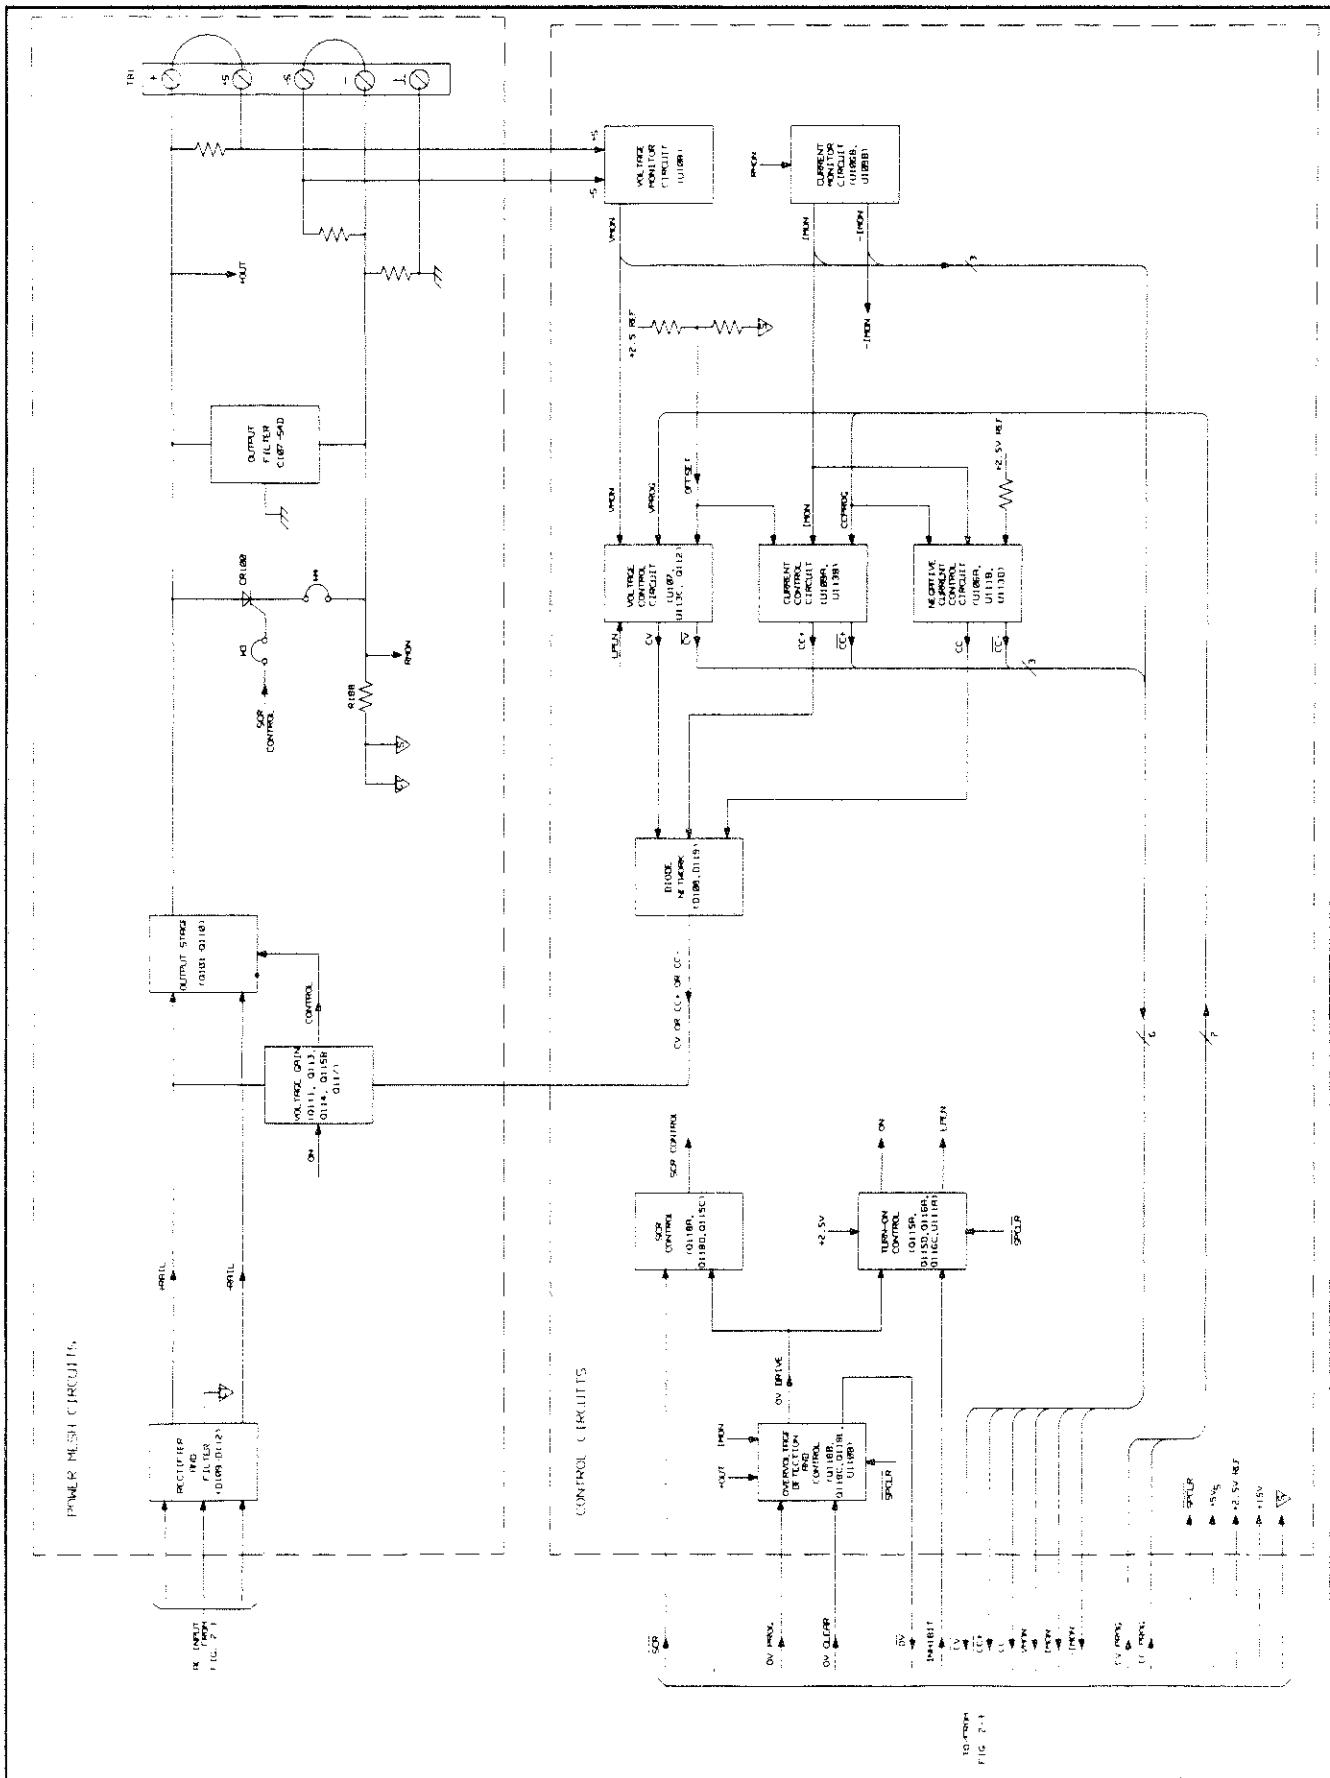

Figure 2-4. Power Mesh and Control Circuits, Block Diagram
2-24 POWER MESH AND CONTROL (FIGURE 2-4)
Figure 2-4 is a block diagram that illustrates the major circuits that comprise the power mesh and control circuits. Complete circuit details for each model are shown schematically in the back of the manual in: Figure 6-4 for HP Model 6632A, Figure 6-5 for Model 6633A, and Figure 6-6 for HP Model 6634A. The functional names on the block diagram correspond with those on the schematics.
The power mesh circuit, shown in the upper half of Figure 2-4, converts the ac from power transformer T1 to a regulated dc output power. These circuits, under control of the circuits shown in the lower half of Figure 2-4, generate a constant voltage (CV) or constant current (CC+) output or provide a current sink (CC-) at the output. In addition to controlling the output stages, the control circuit sends measurement and status signals back to the HP-IB and/or the front panel via the secondary and primary interface circuits.
The following paragraphs describe circuit operation. An overview discussing how regulation is achieved is given first followed by a description of each circuit shown on Figure 2-4.
The voltage gain stage and the output stage in the power mesh section in conjunction with the voltage and current circuits in the control circuit section (see Figure 2-4) are the main regulating elements. The output stage is comprised of
Crowbar SCR (CR100), connected across the output (see Figure 2-4), is fired if the output voltage exceeds the programmed overvoltage value. When fired, CR100 shorts the output. A High level SCR GATE signal from the SCR control circuit (see paragraph 2-35) will fire the SCR. As shown in Figure 2-4, SCR GATE is connected to the SCR via jumper W3. Jumper W4 connects the SCR to the -output line. For certain operations, these jumpers can be removed to disconnect the SCR from the output (see paragraph 4-15 in the Operating Manual). With the SCR removed, the output will not be shorted when an overvoltage condition occurs, but the output stage will be disabled.
When the supply is operating in the constant voltage mode, this circuit generates the CV (analog) and CC (digital) control signals (see Figure 2-4). The CV signal controls (via diodes D123 and D108) the input of the voltage gain stage in order to regulate the output voltage. When D123 is conducting, a Low level CV status signal is sent back to the secondary
When the supply is operating in the constant current mode, this circuit generates the CC+ (analog) and CC+ (digital) signals (see Figure 2-4). The CC+ signal controls (via diodes D118 and D108) the input of the voltage gain stage in order to regulate the output current. When D118 is conducting, comparator U113B output goes low and the CC+ signal is sent back to the secondary interface microcomputer to indicate that the supply is in the constant current mode of operation.
If the output voltage (+ OUT) exceeds OV PROG, U110A produces a negative going signal which sets the latch fromed by Q118E and Q118B. This results in a high level OV DRIVE signal and a low level OV signal. The OV signal is sent to the secondary interface microcomputer. As shown in Figure 2-4, the OV DRIVE signal is applied to the SCR control and turn-on control circuits. This causes the SCR control circuit to fire the SCR and the turn-on control circuit to turn off (inhibit) the output stage.